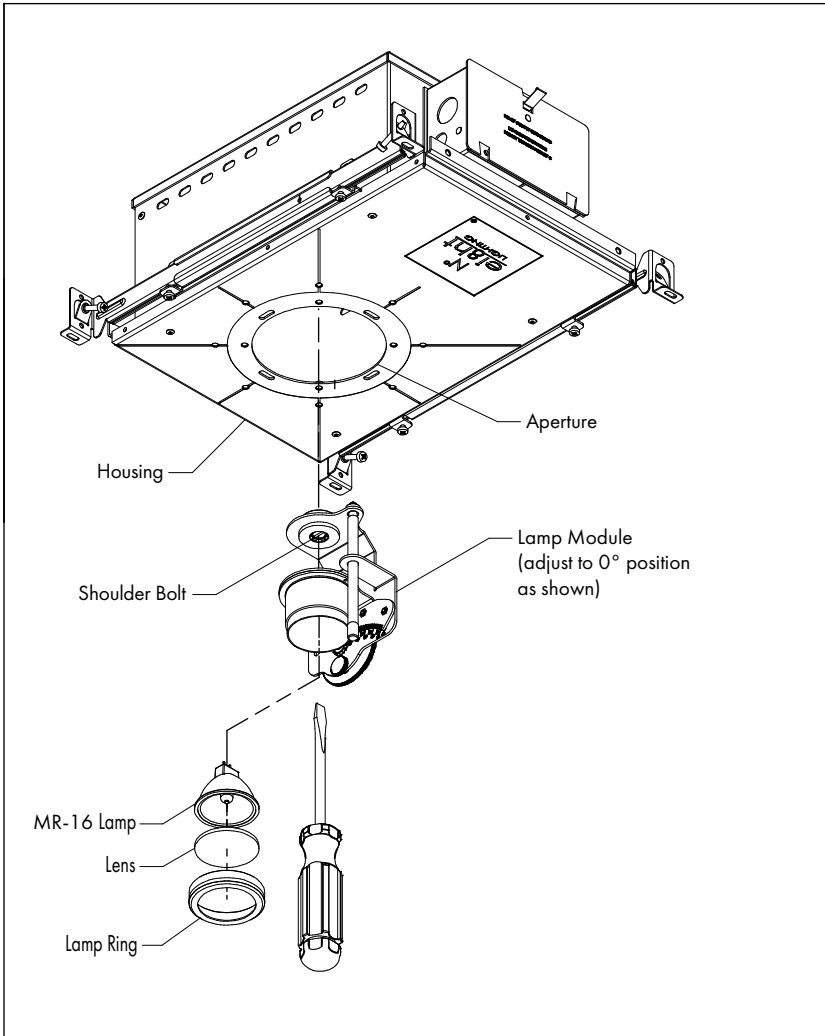
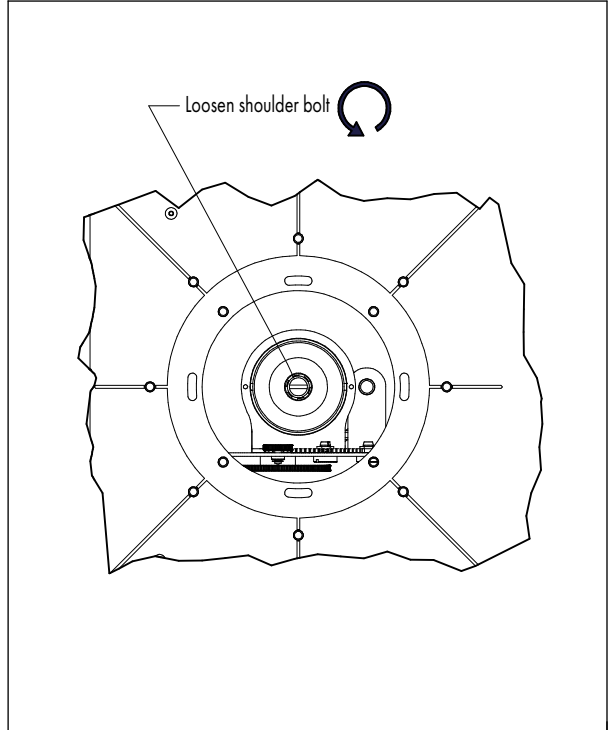
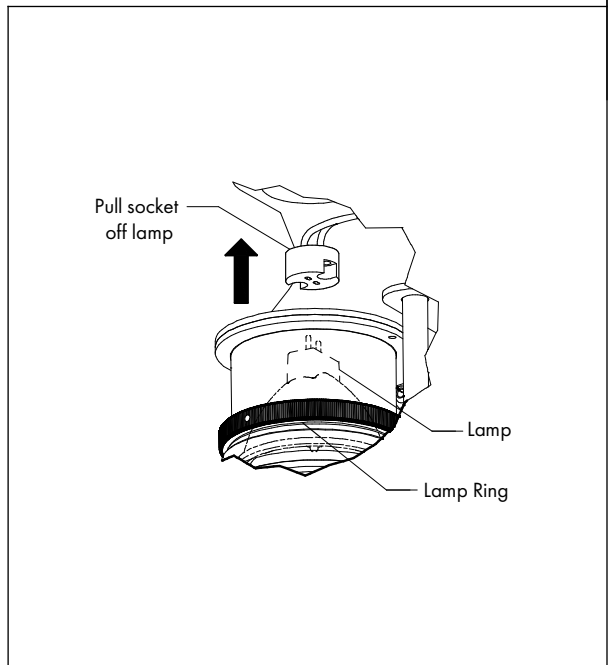

FIG 3.2 Removing Lamp Module A
FIG. 3.3 Loosen Should Bolt
FIG 3.4 Disconnecting Lamp Socket
- STEP 2** Adjust Lamp Module to 0 position - **FIG 3.2.**
- STEP 3** Remove Lamp Rings Lens & Lens Holder to expose Shoulder Bolt - **FIG 3.2.**
- STEP 3** Using flat blade screw driver, loosen Shoulder Bolt to Housing - **FIG 3.2 & FIG 3.3.**
- STEP 4** Pull Lamp Module through aperture & disconnect Lamp socket from lamp - **FIG 3.2 & FIG 3.4.**